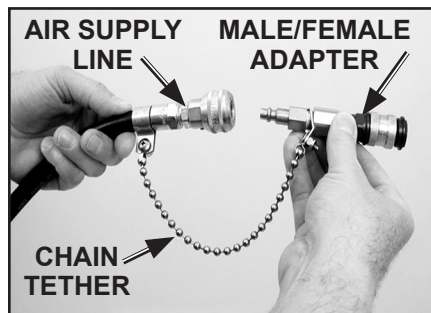

FIGURE 8
- a) Insert the male end of the Male/Female adapter onto the female fitting on the air supply line and check for proper engagement. Check that there is no evidence of flow from the end of the adapter. See FIGURE 8.
- e) Connect the male connector on the DUAL EBSS hose to the adapter on the air supply line and check for proper engagement. See FIGURE 8.